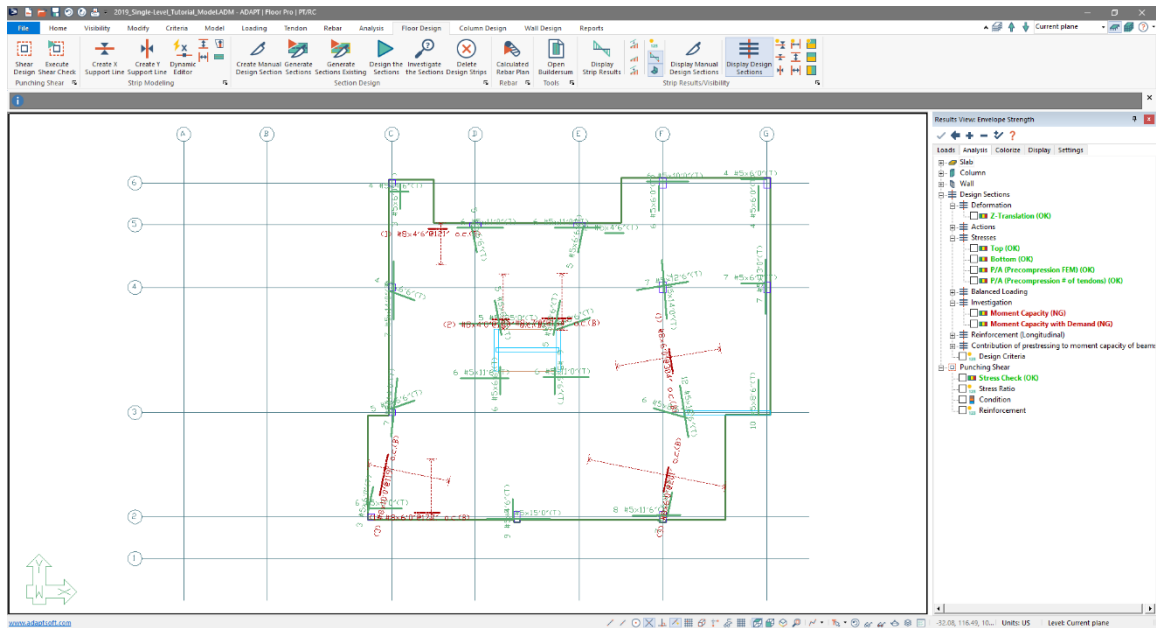

Figure 8-85
- When done the users screen should be similar to that shown in **FIGURE 8-85**.